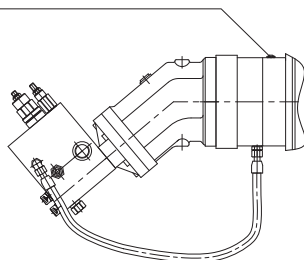

Figure 13
- 1.Open the oil inlet upper on the brake, see figure 13.